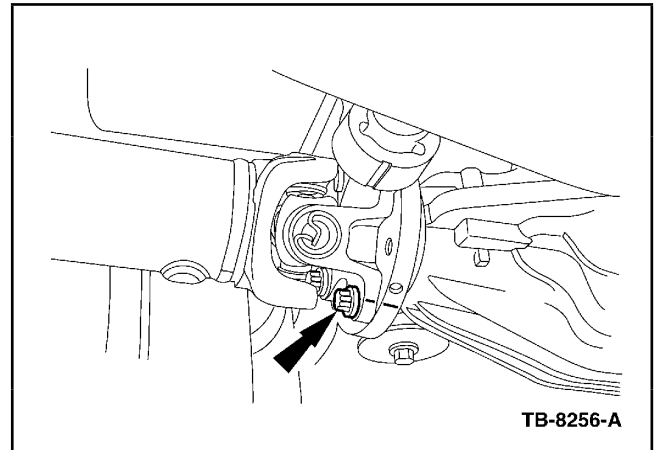

Figure 1 - Article 05-16-4
3. Remove the driveshaft flange bolts (Figure 1).